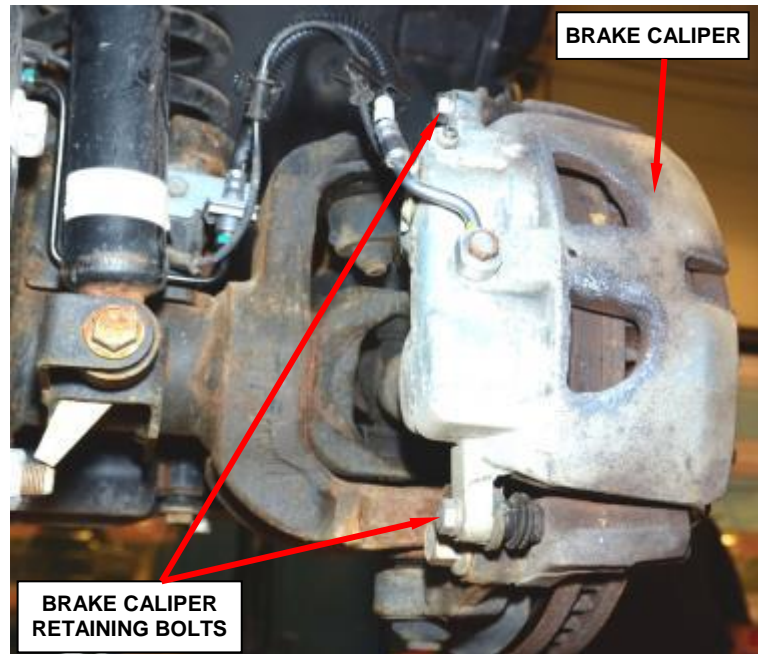

Figure 36 – Brake Caliper Retaining Bolts
7. Remove the front brake caliper retaining bolts and support the calipers using a bungee cords or equivalent (Figure 36).
17. Install the front brake calipers (Figure 36). Tighten the brake caliper retaining bolts to 55 ft. lbs. (75 N·m).